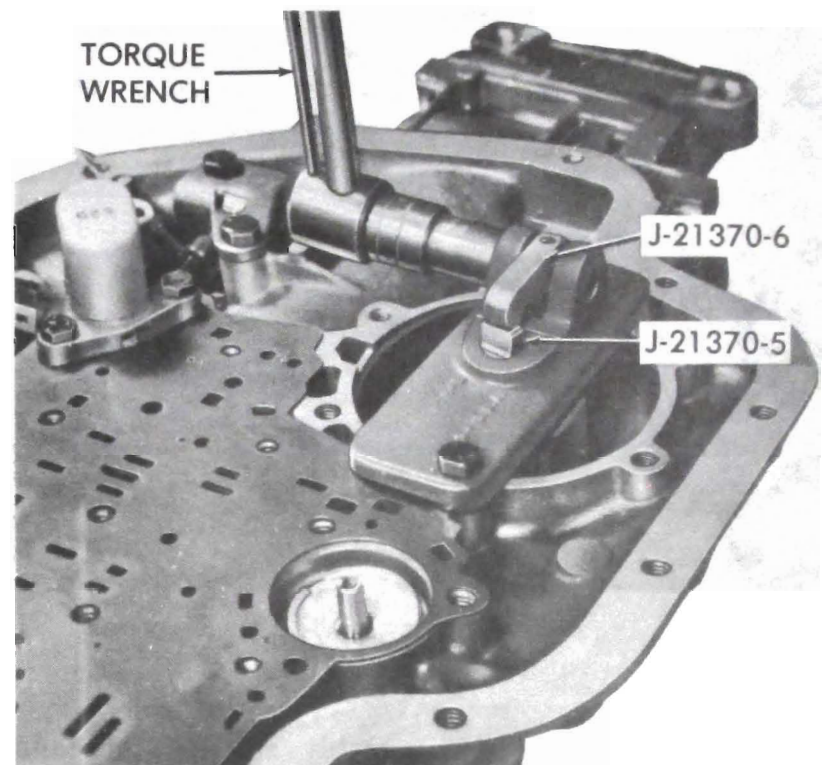

Figure 76-67
b. Apply 25 lb.ft. torque and *select proper pin to be used during assembly of transmission.* See Figure 76-67.